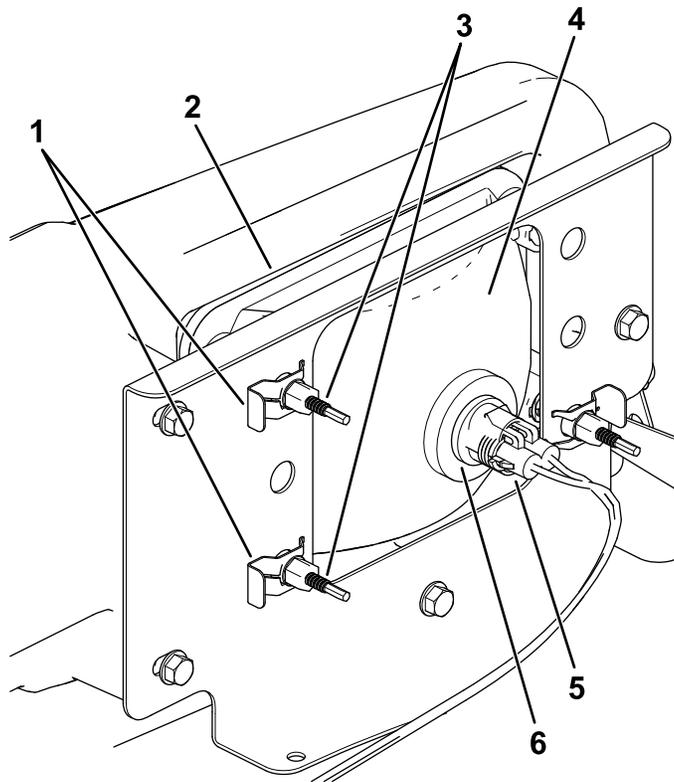

Figure 50
3. Disconnect the electrical connector for the harness from the connector of the lamp assembly (Figure 50).
4. Remove the speed clips that secure the headlight to the headlight bracket (Figure 50).
5. Remove the headlight assembly by moving it forward through the opening in the front bumper (Figure 50).
6. Install the new headlight through the opening in the bumper (Figure 50).
8. Connect the electrical connector for the harness to the connector of the lamp assembly (Figure 50).
5. At the back of the headlight assembly, rotate adjustment screws (Figure 50) to pivot the headlight assembly and align the position of the cast beam.